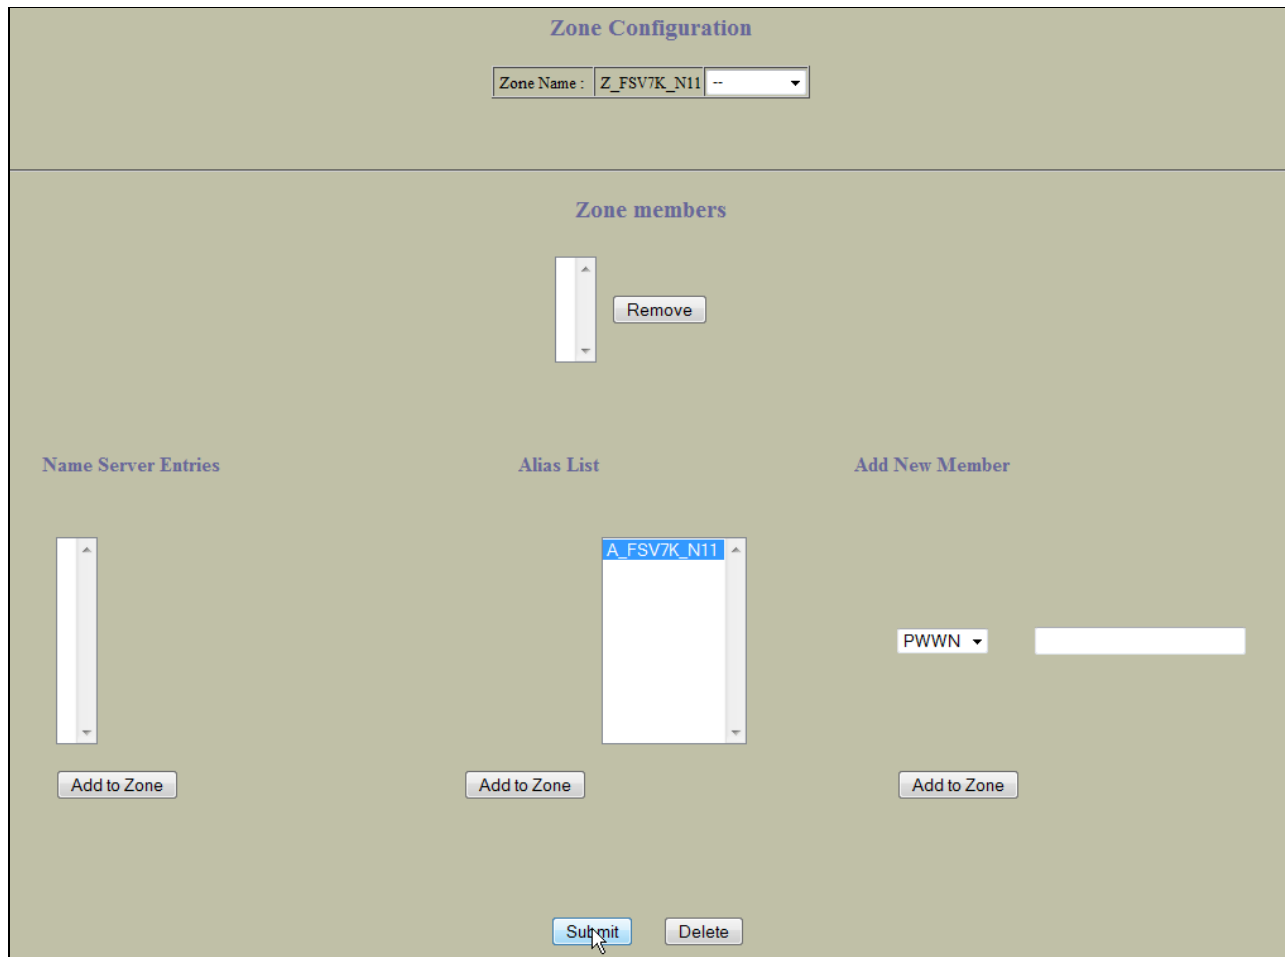

Figure 8-13 Zoning Configuration
12. Click the Zone name. You get the Zone Configuration panel where you can use the **Add to Zone** button to add further aliases to the zone that you have just created. When you are finished, click **Submit** as shown in Figure 8-13.